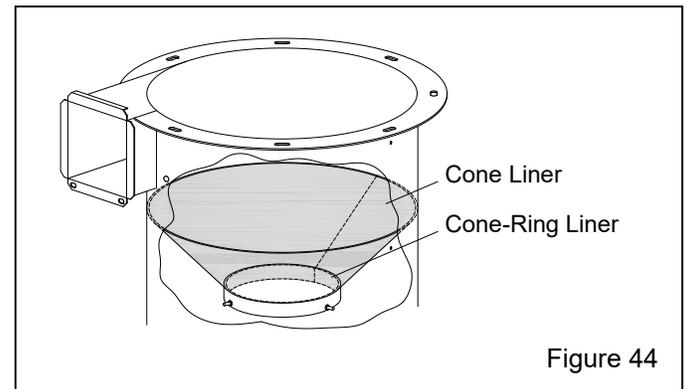

Figure 44
**7.11.13** The cone liner and cone-ring liner, shown in Figure 44, are glued onto the inner cone. Pull off the liners to remove them.